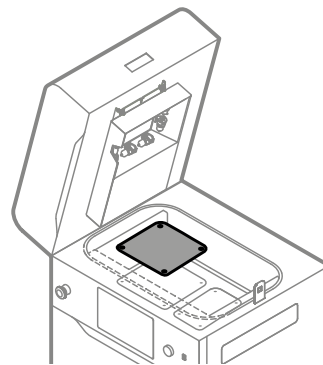

Fig. 12.35 Remove the Feed Bed cover.
16. Remove the Feed Bed cover. You can use the metal spatula (from Dedicated Powder Tools) to pry up and remove the cover (fig. 12.35).